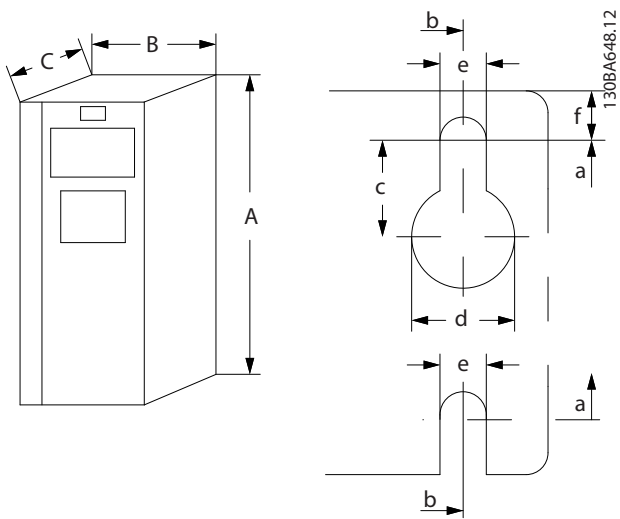
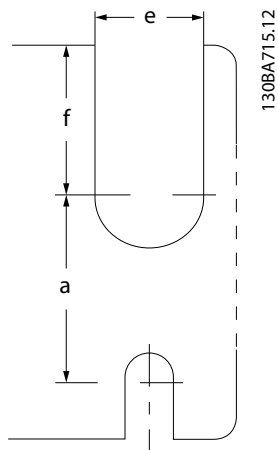

Figure 8.2 Top and Bottom Mounting Holes (See chapter 8.9 Power Ratings, Weight, and Dimensions)
Figure 8.3 Top and Bottom Mounting Holes (B4, C3, and C4)
1) See Figure 8.2 and Figure 8.3 for top and bottom mounting holes.